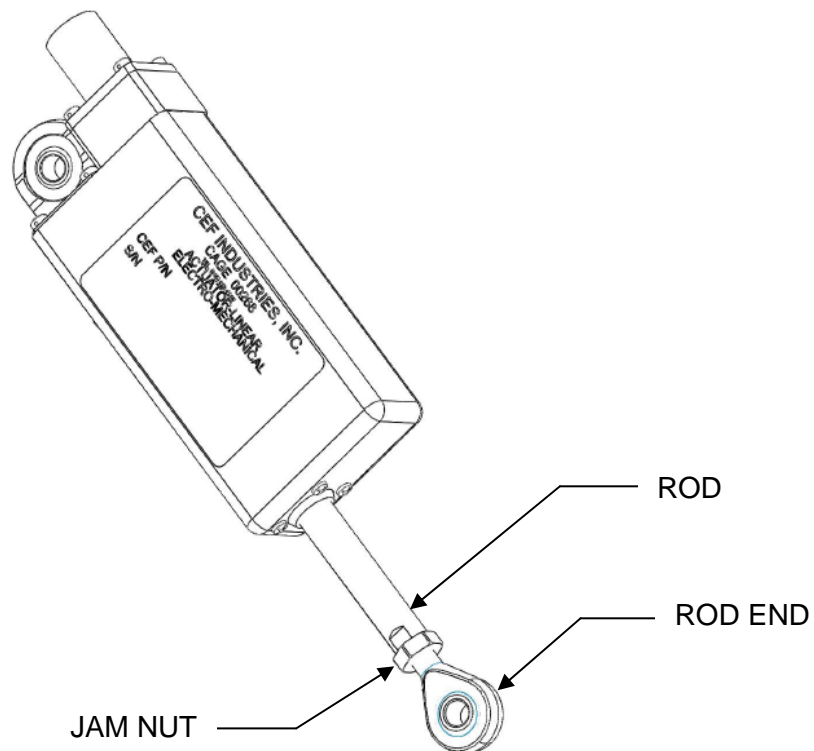

Figure 8-5: ACTUATOR ADJUSTMENT COMPONENTS
- e. Loosen the jam nut securing the actuator rod end position (Refer to Figure 8-5).